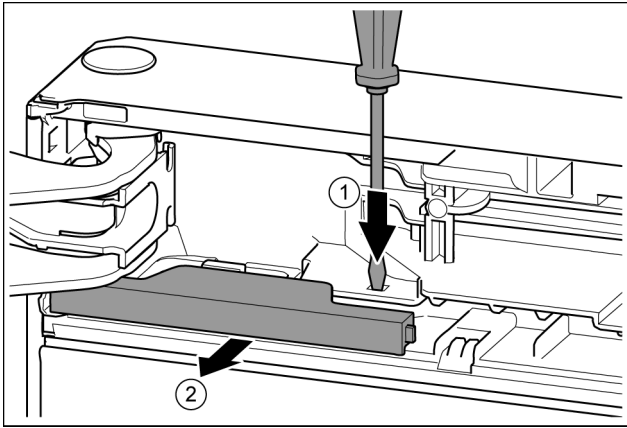

Fig. 11
- ▶ Press the tab with the slotted screwdriver. Fig. 11 (1)
- ▶ Pull cover out of the catch mechanism. Fig. 11 (2)